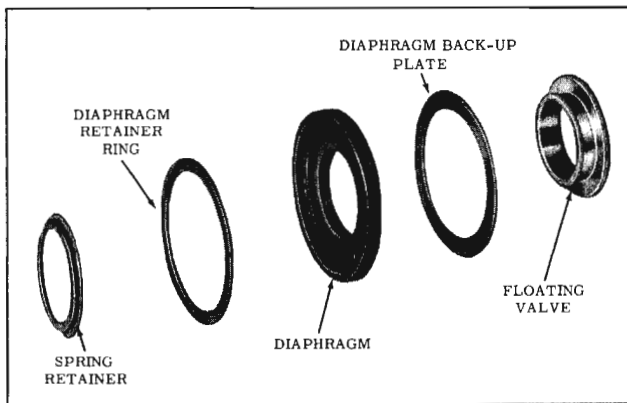

Fig. 7-21 Floating Valve Assembly
8. Disassemble the floating valve. (Fig. 7-21)
3. Assemble the floating valve as follows. (Fig. 7-21)